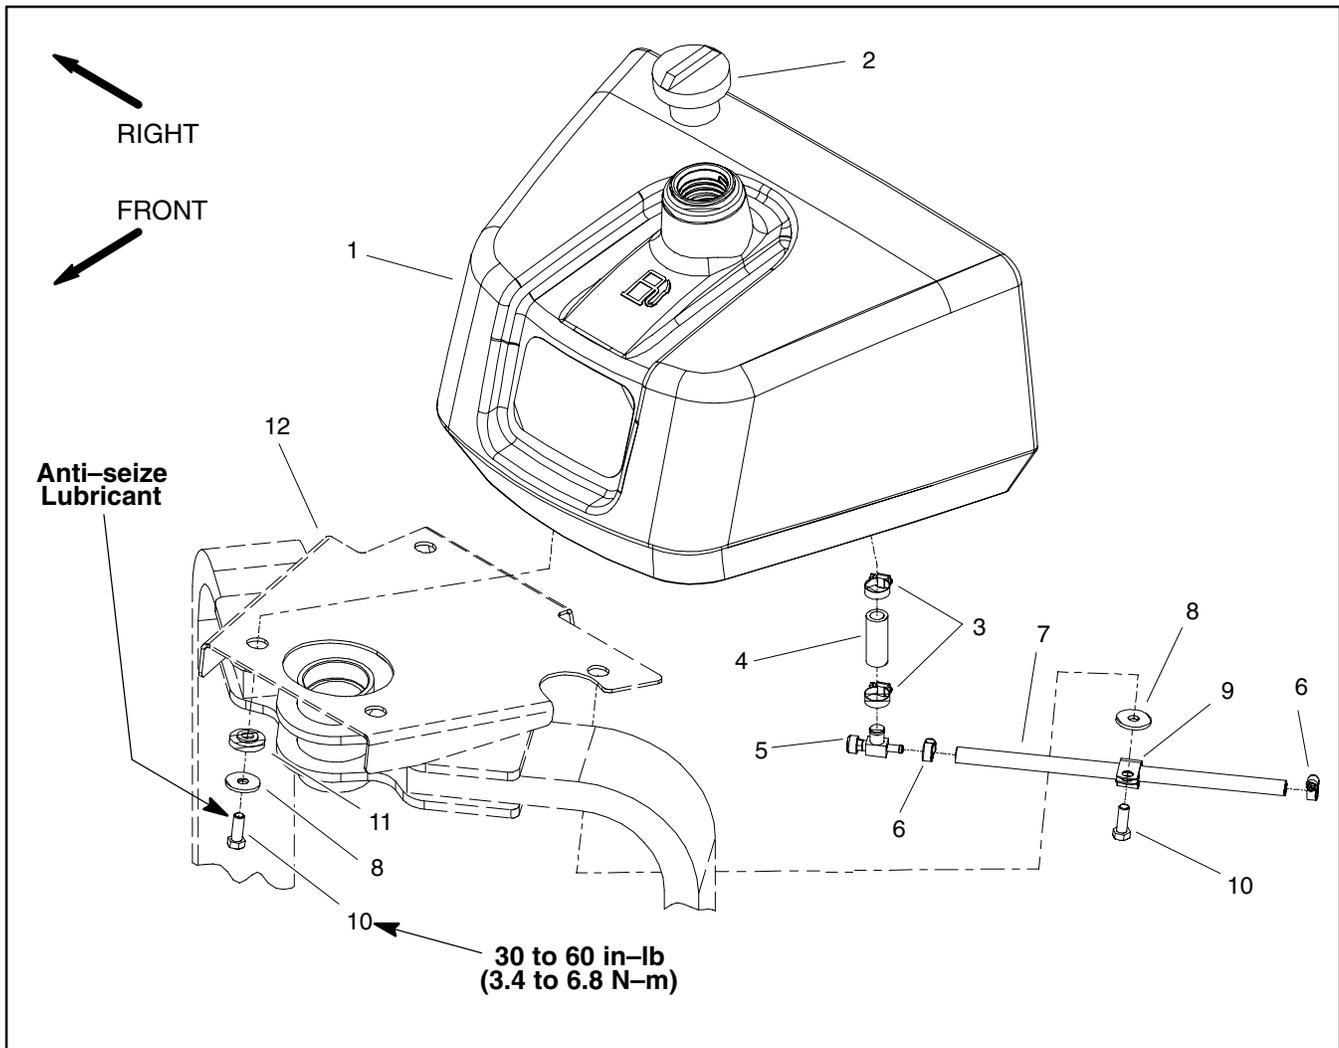

Figure 5
Fuel Tank Removal (Fig. 5)
4. Remove fuel tank using Figure 5 as a guide.
Fuel Tank Installation (Fig. 5)
1. Install fuel tank to frame using Figure 5 as a guide. Apply anti-seize lubricant to fuel tank cap screws and torque screws from 30 to 60 in-lb (3.4 to 6.8 N-m).